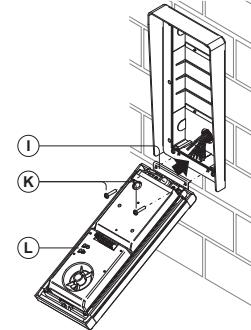

Fig. 9
9. Insert the hinge **(I)** (Fig. 9) and fix it with the two screws **(K)** (Fig. 9) provided;
10. Make all connections following accurately the wiring diagram provided. Check the installation and if necessary adjust speech levels using volume controls **(L)** (Fig. 9);